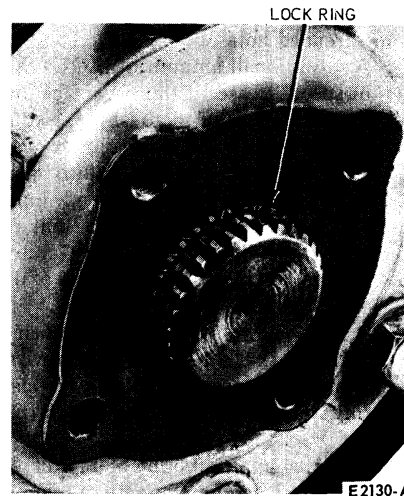

FIG. 3 Access To Lock Ring
2. Remove the retaining lock ring (Fig. 3).